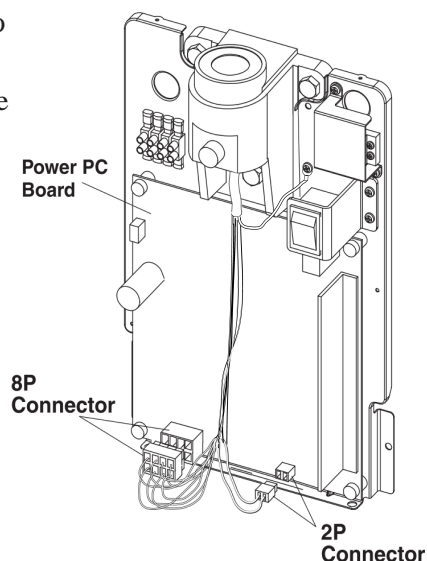

Fig.3-8 Connecting 2P and 8P Connectors on Power PC Board
- Connect 2P and 8P connectors of horizontal arm cable to the respective connectors on power PC Board. (Fig.3-8)